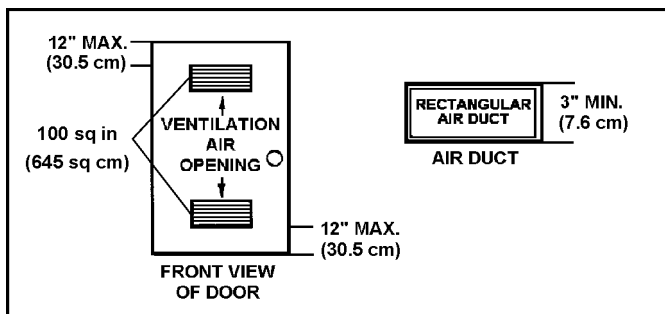

FIGURE 10.
**A. ALL AIR FROM INSIDE BUILDINGS:** (See Figure 10 and 11)